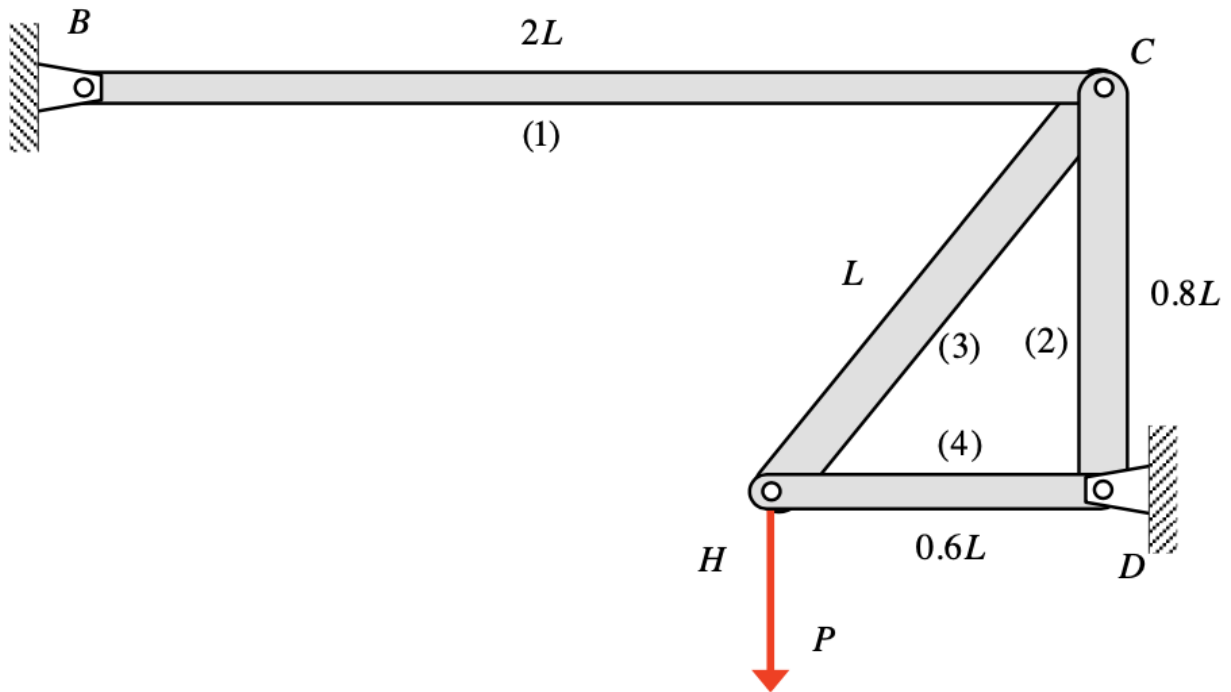

Figure 3: Truss for Problem 3
The truss shown below (*figure 3*) is supported by pin joints at B and D. Each member of the truss is made of the same material but has different cross-sectional areas: Member (1) - A , Member (2) - $2A$, Member (3) - $2A$, and Member (4) - A . If a force P acts downward at H,